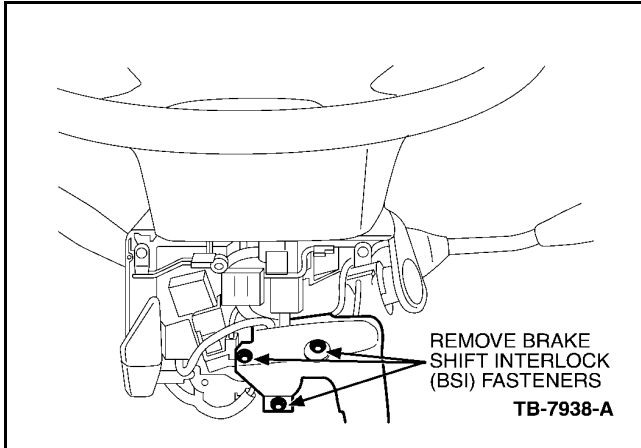

Figure 4 - Article 04-22-12
4. Remove the BSI fasteners (T-30 on the side and T-20 on the bottom) (Figure 4).